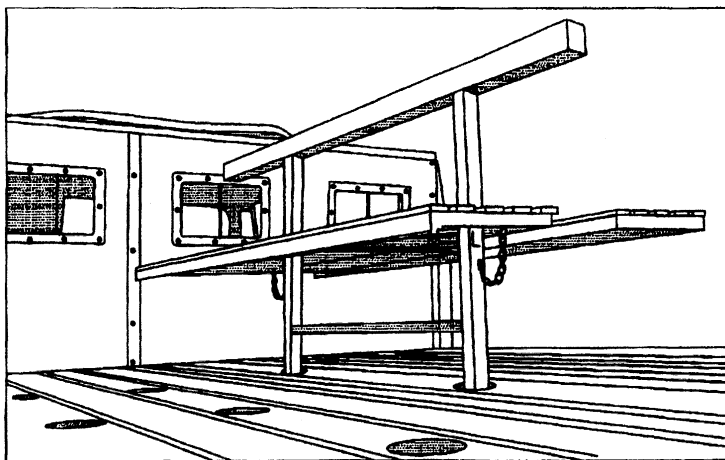

Fig 32 Passenger seats in position
55. The spare wheel is carried in a winch-type carrier (Fig 32) located on the right-hand chassis sidemember.
64. The flat bed of Bedford MJ vehicles is designed to accept two standard passenger seats. Figure 32 is a general view of one seat fitted to the vehicle.